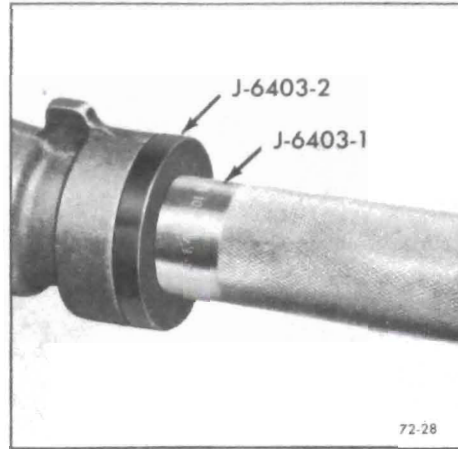

Figure 72-416 - Installing Extension Oil Seal
- Coat I.D. of bushing with transmission oil and new seal with sealing compound and start straight in bore of case extension. Using installer J-6403-1 and J-6403-2 tap seal into extension case. See Figure 72-416.